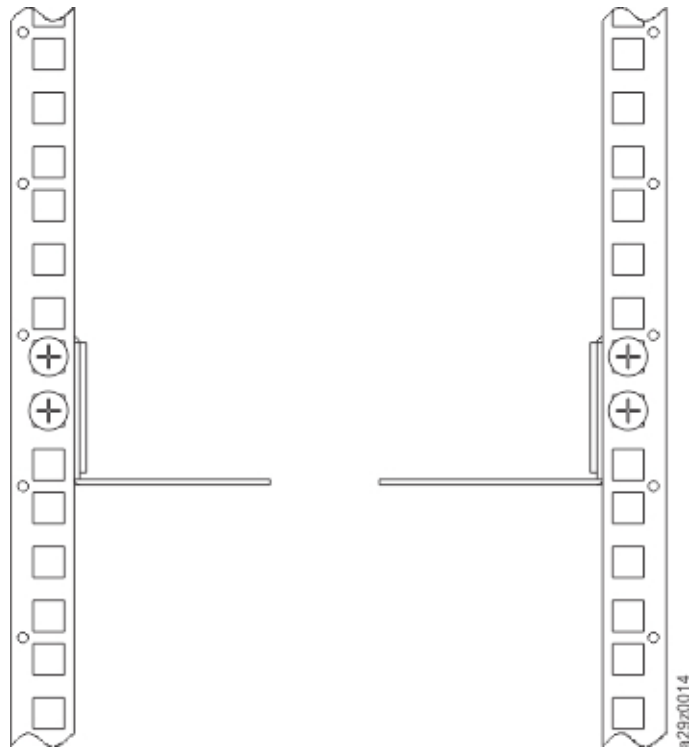
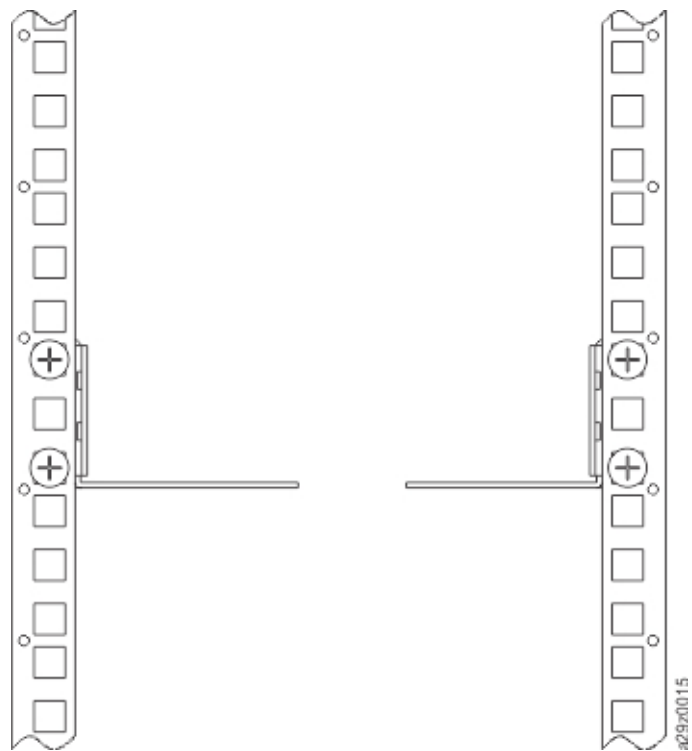
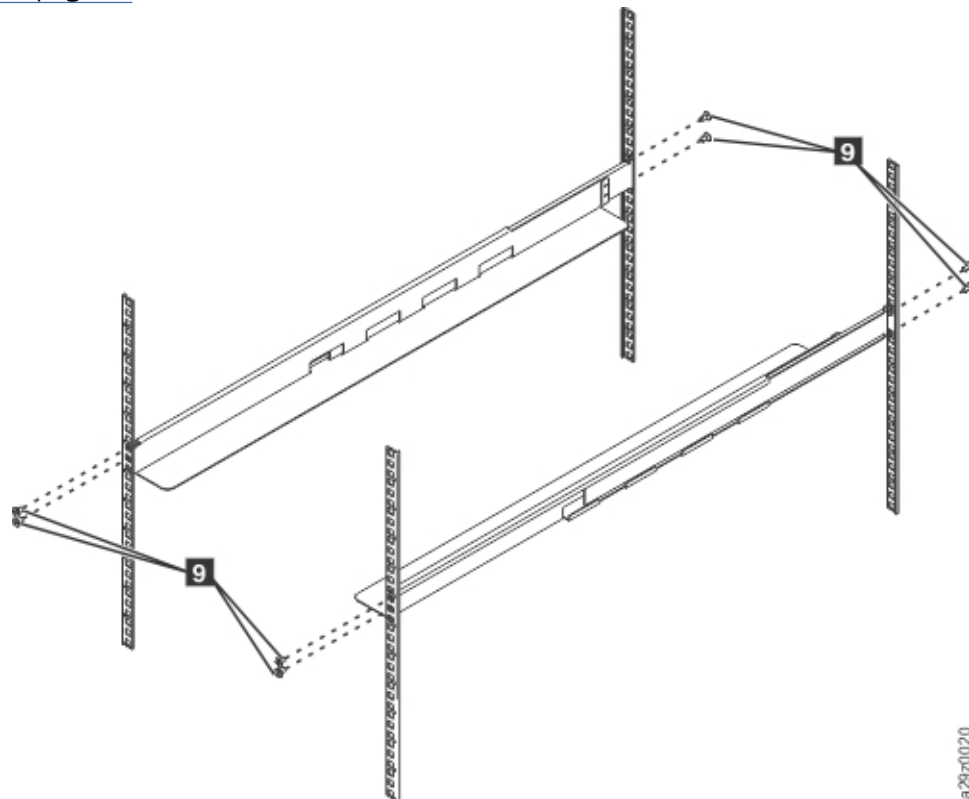

Figure 8. Rack mount screw locations for front vertical rails
Figure 9. Rack mount screw locations for rear vertical rails
Figure 14. Installing the rail assemblies
2. Determine the location in your rack for your library to be installed. With a pencil, mark the location on the front vertical rails (Figure 8 on page 21) and rear vertical rails (Figure 9 on page 21) in your rack.
- Install the rail assemblies into the rack (Figure 14 on page 23). Ensure the 3 holes in the front of the unit align with the 1U space marked on the vertical rails in Step 2. Secure the rails to the rack with 4 flat-head screws **9** on each side of the rack. Use both of the two screw locations on the rear of the rack rail (Figure 9 on page 21). Use the top and middle screw locations on the front of the rack rail (Figure 8 on page 21).